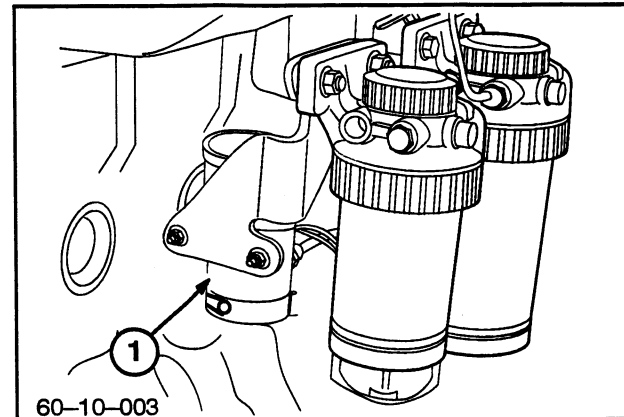

Figure 1-1-9
An electric fuel pump is fitted to all models. Located behind the sedimenter, (1) Figure 1-1-9, the pump draws fuel from the tank, via the sedimenter and passes fuel under pressure to the filter and onto the fuel injection pump.